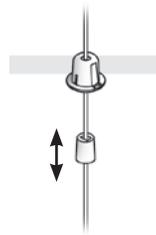

Figure 3
5. Adjust the position of the plug as necessary (Fig. 3).